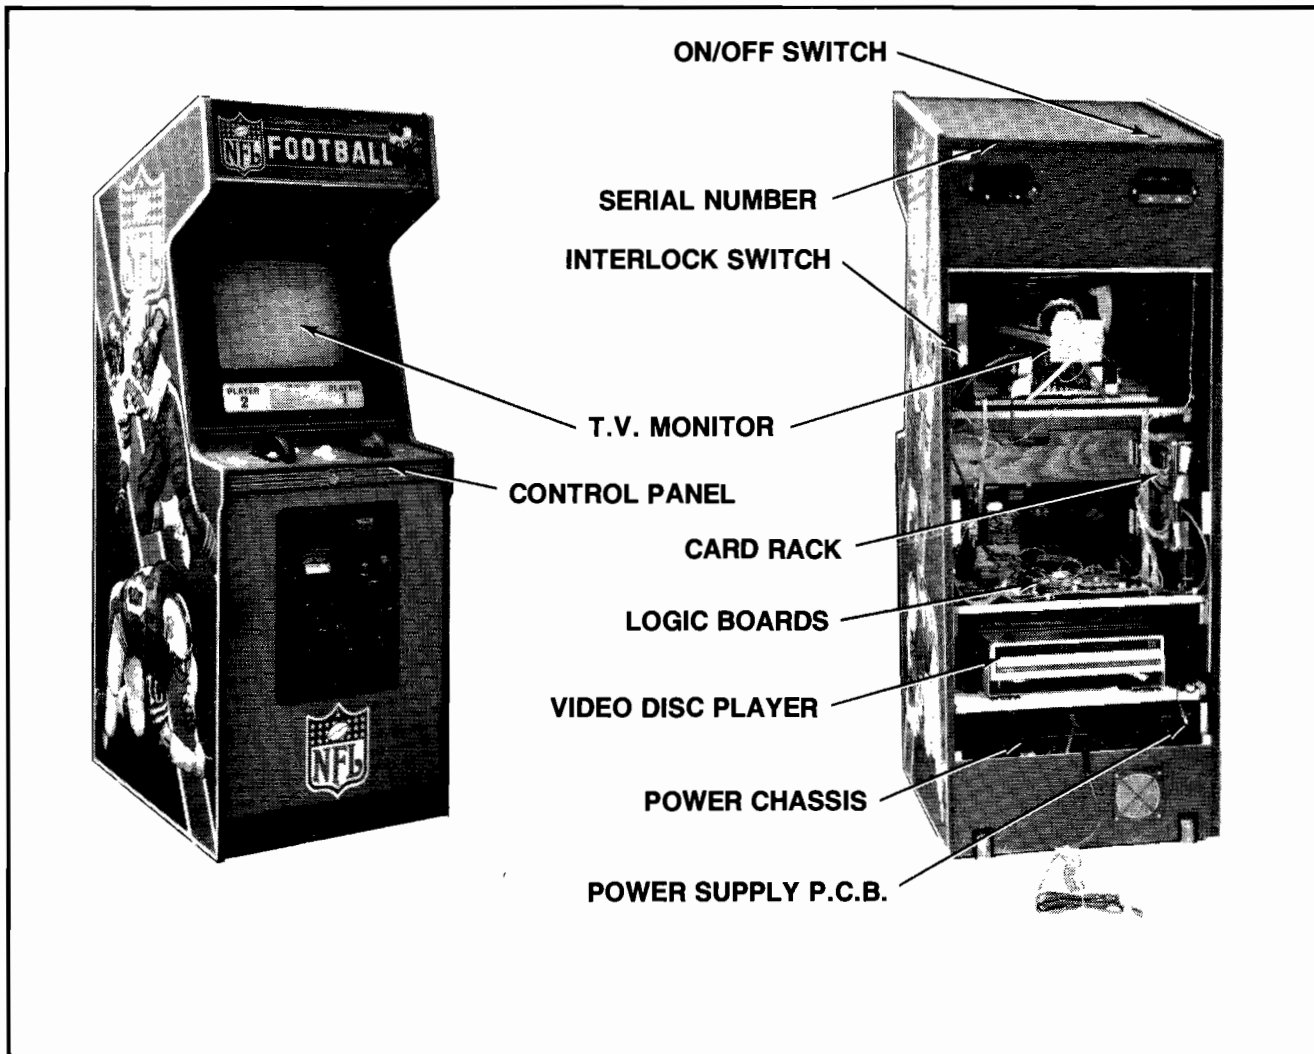

Figure 1-2 Location of Serial No., Interlock Switch, & Major Sub-Assemblies
5. Open the cabinet and inspect the inside of the game for any signs of damage. See Figure 1-2.
Make sure all printed circuit boards (P.C.B.'s) are firmly seated in their connectors. See Figure 1-2. These connectors are also keyed. The P.C.B.'s will only go in to them one way without being damaged.
Note the location of the games serial number. See Figure 1-2.
Check all major subassemblies to be sure they are mounted securely. These are called out in Figure 1-2.
3. Interlock and power ON/OFF switches. See Figure 1-2.
The game ON/OFF switch is located as shown in Figure 1-2. Turn the game on and allow it to warm up a few minutes.